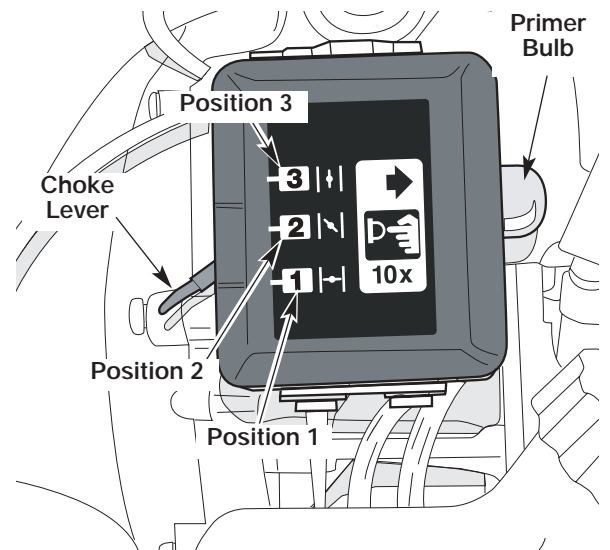

Fig. 4
3. Fully press and release the primer bulb 10 times, slowly. Some amount of fuel should be visible in the primer bulb and fuel lines (Fig. 4). If you can't see fuel in the bulb, press and release the bulb as many times as it takes before you can see fuel in it.
4. Place the choke lever in Position 1 (Fig. 4).